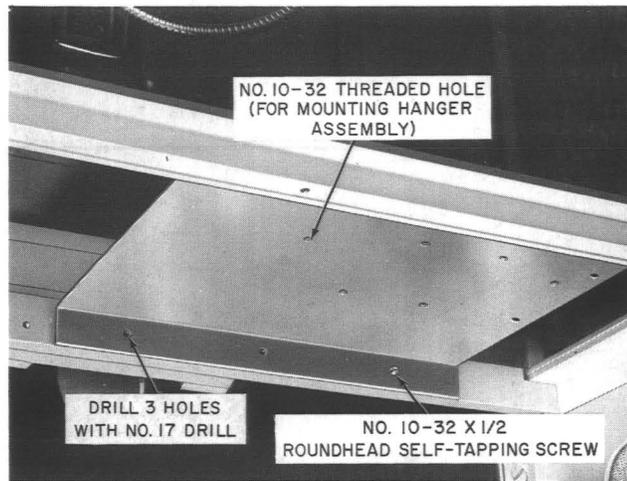

Fig. 20—Installation of KS-19267, List 14 Mounting Bracket
(4) Using the mounting bracket as a template, mark the location for drilling three holes on the rear-cross rail (Fig. 20).
(5) Remove the screw and mounting bracket.
(6) Using a No. 17 drill bit, drill the three holes marked on the rear-cross rail.
(7) Install the KS-19267, List 14 mounting bracket and secure it with two No. 8-32 by 7/16 round-